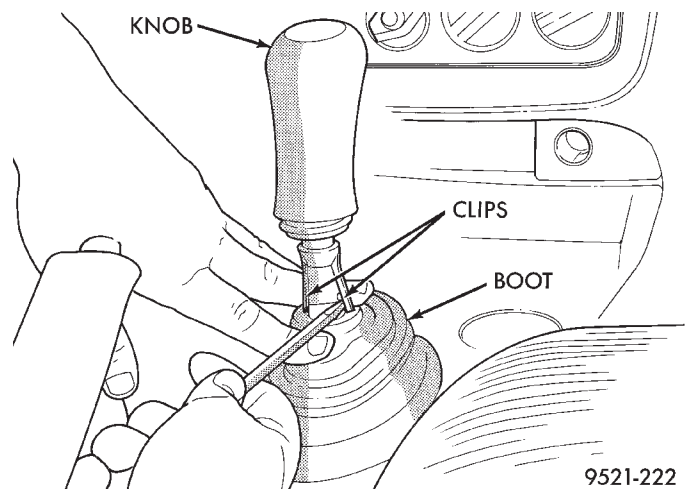

Fig. 145 Gearshift Knob
- (3) If the vehicle is equipped with a manual transmission remove the gearshift knob and shifter boot using the following procedure.
- Push shifter boot down to expose clips on gearshift knob and roll pin on shifter handle (Fig. 145).
- Pry the clips on the shifter knob away from the roll pin in the shifter handle using a flat blade pry tool (Fig. 145).